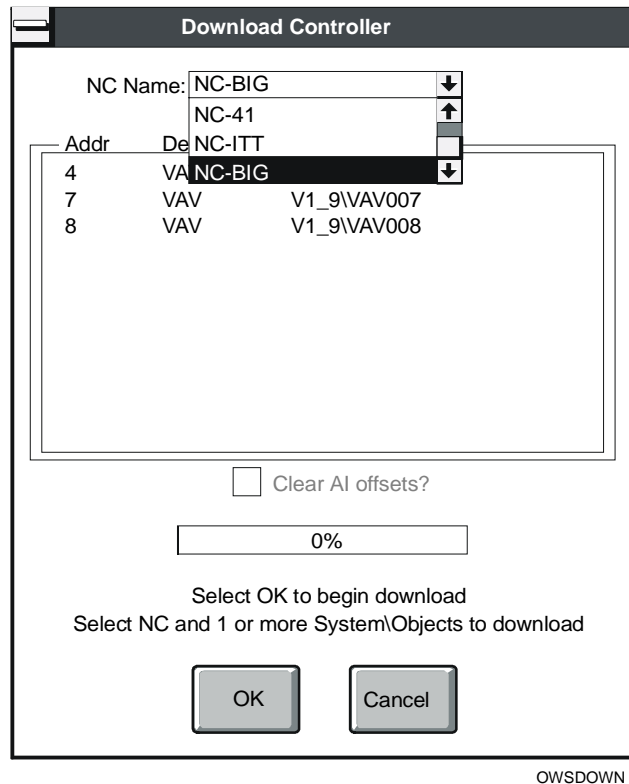

Figure 16-3: OWS - Download Dialog Box
1. On the Download menu, click Current Configuration. HVAC PRO software builds a list of all Network Controller Units (NCUs) on the active network. The Download Controller dialog box displays (Figure 16-3).